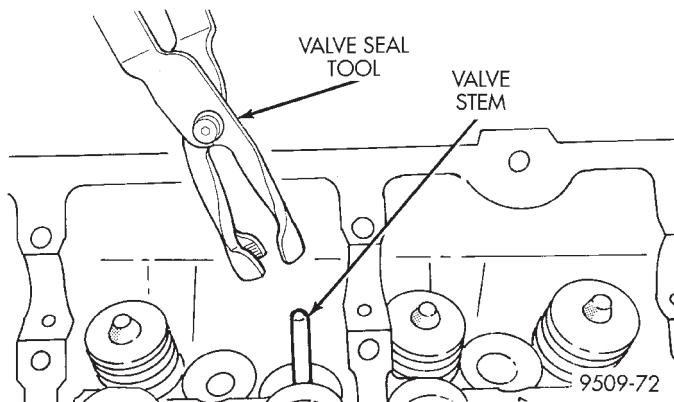

Fig. 50 Valve Stem Oil Seal Tool
(2) Install new valve stem seals on all valves using a valve stem seal tool (Fig. 50). The valve stem seals should be pushed firmly and squarely over valve guide.